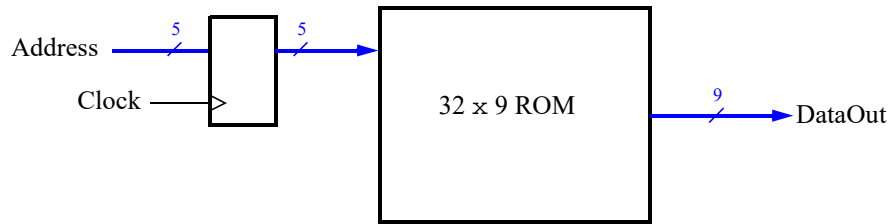

Figure 6: The 32 x 9 ROM with address register.
3. A diagram of the memory module that we need to create is depicted in Figure 6. Since this memory module has only a read port, and no write port, it is called a *synchronous read-only memory (synchronous ROM)*.